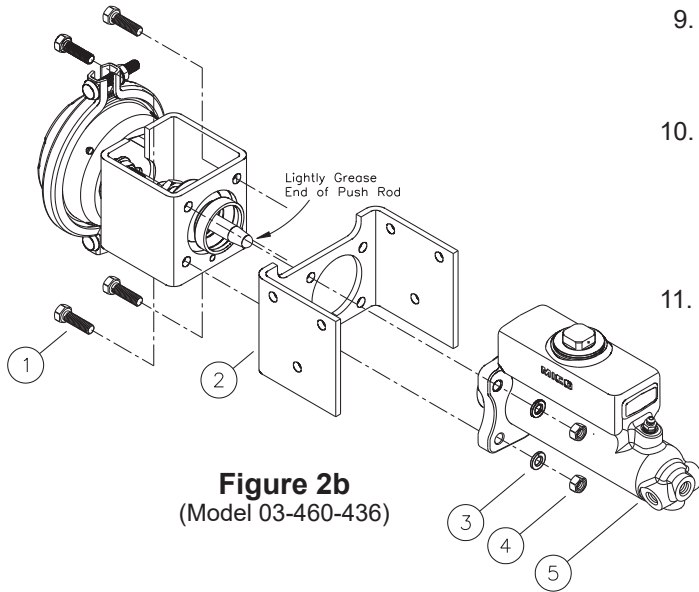

Figure 2b
1. If necessary, separate master cylinder (5) from mounting bracket (2) by removing four screws (1), nuts (4), and lock washers (3). **NOTE: Model number 03-460-436 will require the removal of these items. See Figure 2b.**
2. Remove guide (9) and boot (10) from cylinder. Carefully remove o-ring (8) from guide (9). **NOTE: Be careful not to scratch or mar guide (9) bore. Not all models use guide (9), o-ring (8), or boot (10).**
3. Remove retaining ring (4) from housing (11).
9. Install new gasket (7) and filler plug (6) on housing. **NOTE: Before installing filler plug (6) be sure the filler plug breather hole is free of all contaminants. Use air pressure to clean and dry this hole.**
10. If mounting bracket was removed from the master cylinder, reattach using four screws (1), lock washers (3), and nuts (4). Torque nuts (4) 29.8-36.6 N·m (22-27 lb·ft). **NOTE: Model number 03-460-436 will require these items to be reinstalled. Lightly grease the end of the push rod. See Figure 2b.**